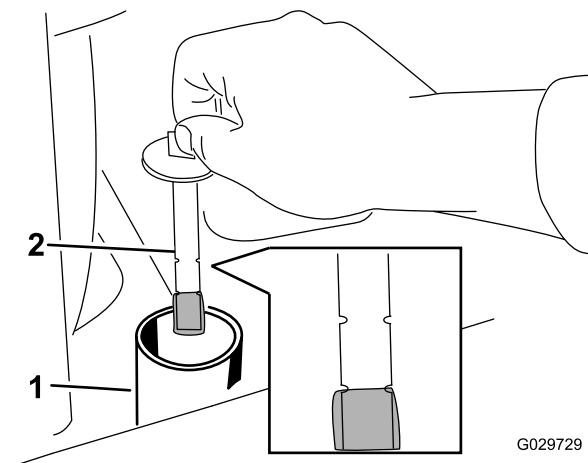

Figure 62
6. Remove the hydraulic-tank cap and dipstick (Figure 62).